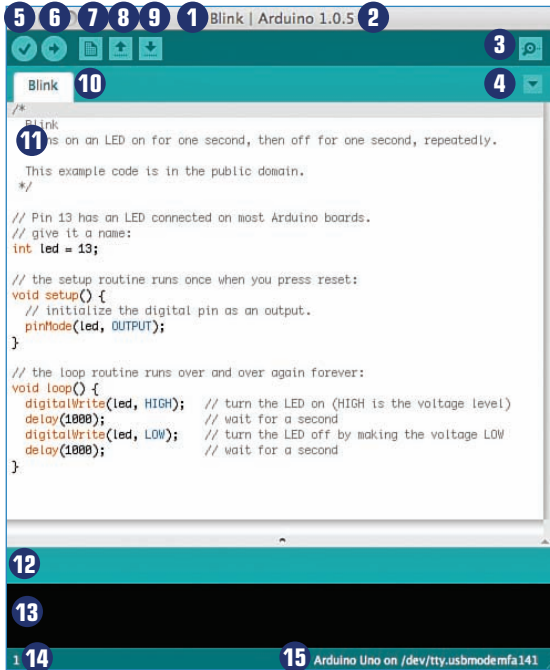

FIGURE 5.2 The Arduino environment's interface gives users a lot of options.
Broadly speaking, the IDE consists of a programming window and a set of menus. Figure 5.2 shows the Arduino IDE environment. Follow along with the callouts to see what each option does.
- ❸ **Serial monitor**—Activates the serial monitor feature of the environment. I’ll explain all about the serial monitor and how it could benefit you later in this chapter.
- ❹ **Tab selector**—When you have multiple sketches open, you can use this button to navigate to the sketch you want to use.
- ❺ **Verify**—Click here if you want to check the syntax of your code without either saving or uploading it to your Arduino.
- ❻ **Upload**—Your best friend! This button verifies your code, compiles it into the programming language the Arduino understands, and sends it to the Arduino.
- ❼ **New**—Create a new sketch. Clicking this button won’t affect any other sketches you might have open. The new filename defaults to the current month and day.
- ❽ **Open**—Opens up your “Arduino sketchbook,” which is your default folder for sketches. From there, you can open files as you normally would.
- ❾ **Save**—Save the sketch! Note that Arduino sketches must be saved within a folder, so if no folder exists for a new file, the environment will create one.
- ❿ **Tab**—Each window has its own filename, which duplicates from the top of the window. Additionally, sometimes sketches consist of more than one tab. Load the example sketch `toneMelody` (see below for how to find example sketches) and you will see how this works. The second example file, `pitches.h`, is a source file that the main sketch needs to operate.
- ⓭ **Status window**—This black pane displays error messages incurred during upload. The Arduino software verifies all code being sent and won’t upload if there’s an error. If a problem is found, the error message attempts to display what’s wrong, though it’s often cryptic! As you can see, no error message appears in Figure 5.2.
Let's delve into the code. First, however, make sure you have the latest version of the Arduino software. Simply launch the application and look at the top of the programming window (callout 2 on Figure 5.2) to see the version number. Next, go to the Arduino website at arduino.cc and click on Download. It'll tell you the current release number there.